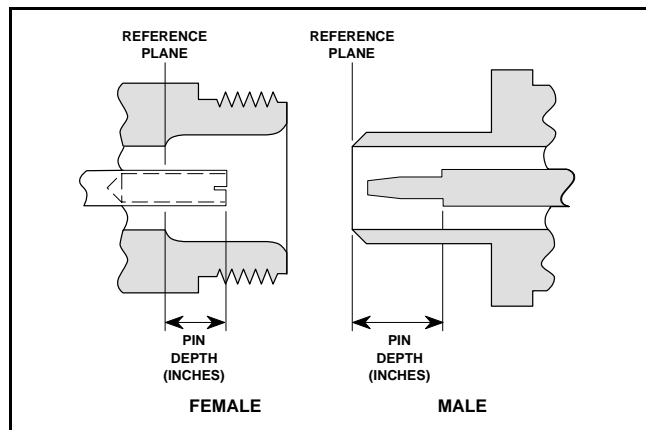
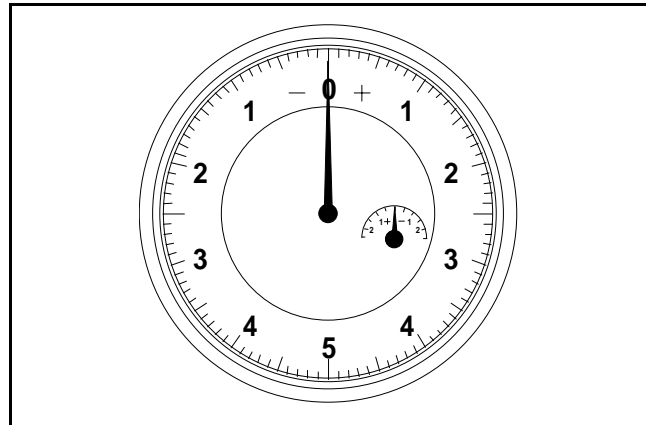

Figure 2. N Connector Pin Depth Definition
Figure 3. Pin Depth Gauge
a. Beware of Destructive Pin Depth on Mating Connectors. Before mating, measure the pin depth (Figure 2) of the device that will mate with the SWR Autotester or bridge, using a ANRITSU Pin Depth Gauge (Figure 3) or equivalent. Based on SWR Autotesters and bridges returned for repair, destructive pin depth of mating connectors is the major cause of failure in the field. (A destructive pin depth has a center pin that is too long in respect to the connector's reference plane.) When the SWR Autotester or bridge is mated with a connector having a destructive pin depth, damage will likely occur to the SWR Autotester or bridge.
region of the gauge (Figure 3), the center pin is too long. Mating under this condition will likely damage the SWR Autotester or bridge connector. On the other hand, if the test device connector measures out of tolerance in the “-” region, the center pin is too short. While this will not cause any damage, it will result in a poor connection and a consequent degradation in performance.